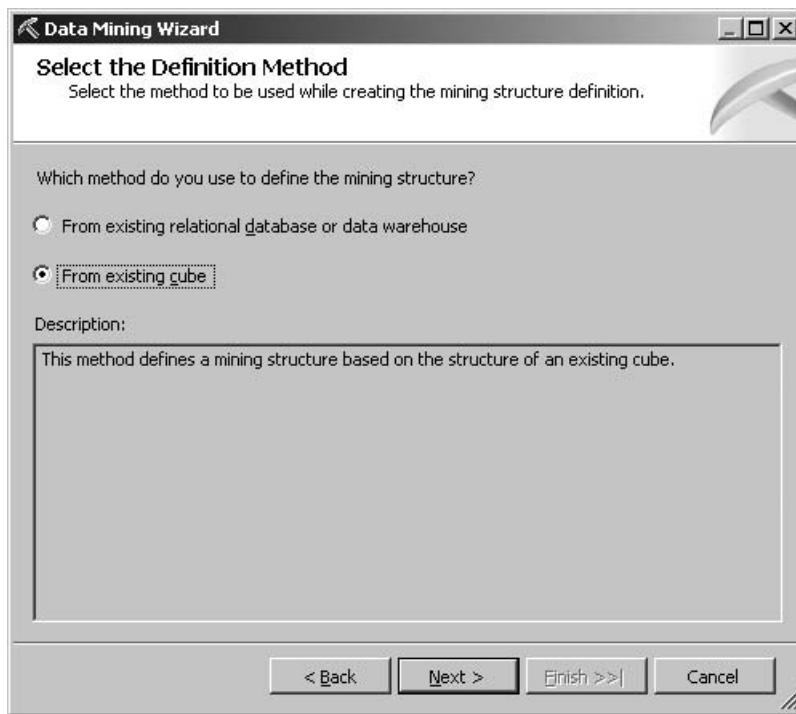

Figure 14-1 The Select the Definition Method page of the Data Mining Wizard
13. Click Next. The Select the Definition Method page of the wizard appears, as shown in Figure 14-1.